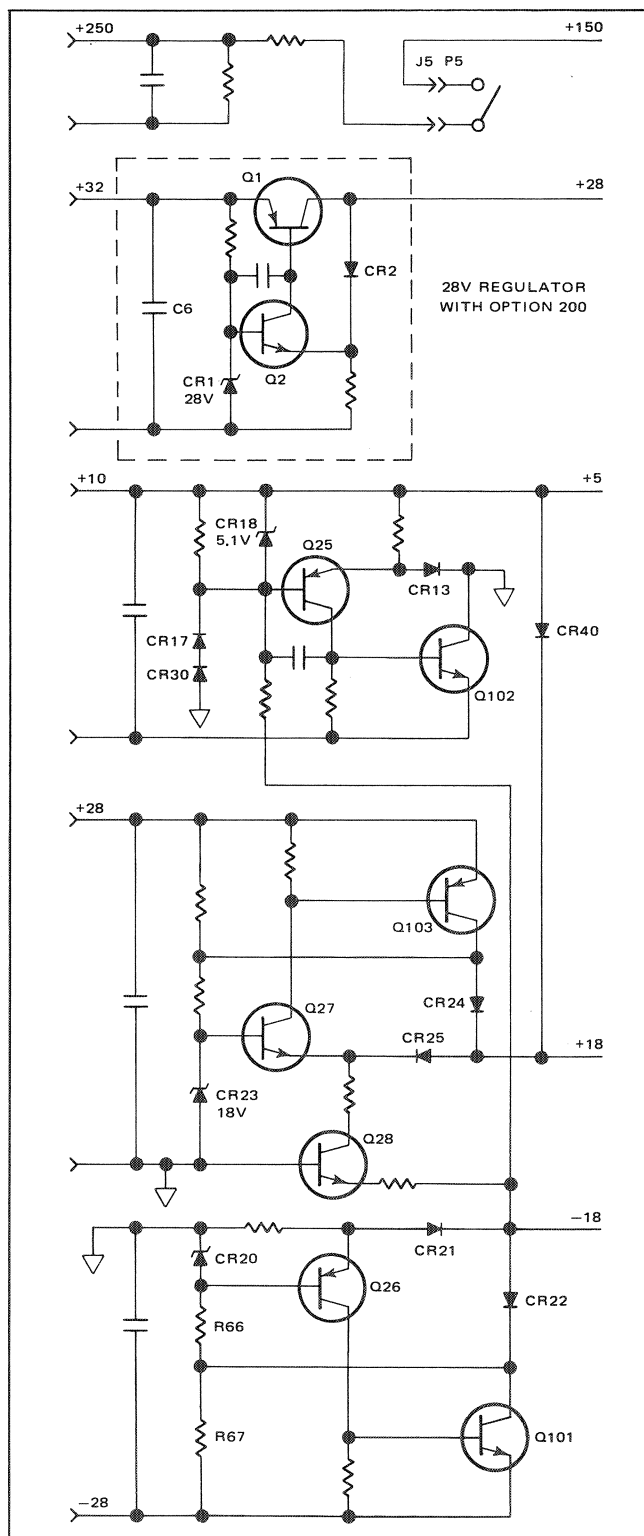

Figure 4.24 - Power Supply
4.126 The power supply (figure 4.24) provides all voltage levels for the operation of the instruments and standby power (with power OFF selected) for the continuous operation of the optional frequency source (with instruments equipped with Option 200). All supplies except the +150 volt supply are regulated.